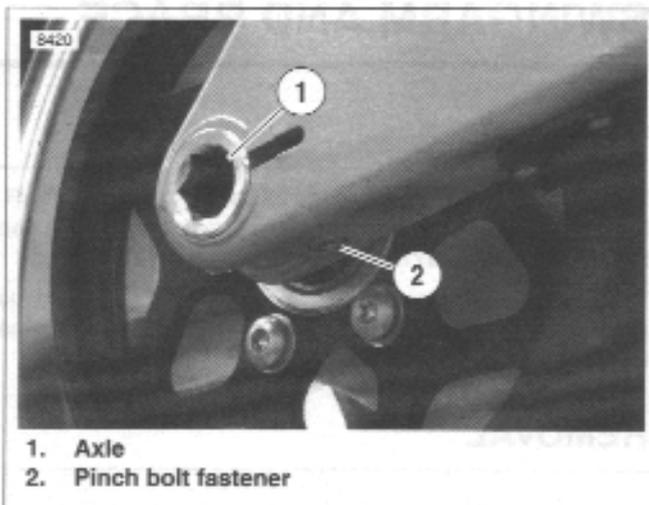

Figure 2-76. Rear Wheel Mounting, Right Side
3. See Figure 2-76. Loosen rear axle pinch fastener (2).
4. Loosen rear axle (1) approximately 15 rotations to allow partial tension to be removed from rear drive system.
5. See Figure 2-76. Tighten rear axle (1) to 48-52 ft-lbs (65-70 Nm).
6. Tighten rear axle pinch fastener (2) to 40-45 ft-lbs (54-61 Nm).